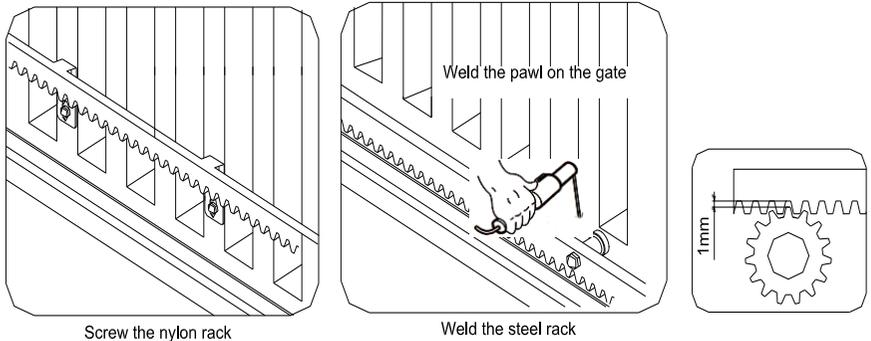

Fig.6
**Installing the rack** (see Fig.6)